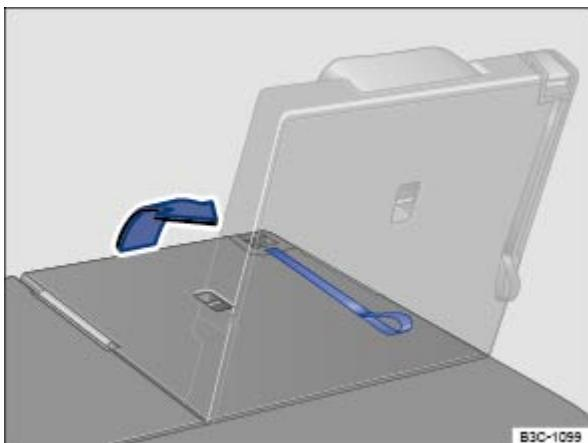

Fig. 79 In the third row: Strap to raise the third row seat backrest.
- Pull the loop on the backrest \Rightarrow Fig. 79 to fold the backrest into place. **OR:** From inside the vehicle, push the lever up and, at the same time, push the backrest into place with your hand.
- If the loop on the backrest \Rightarrow Fig. 79 is attached too tightly to the backrest, the backrest may not securely latch. Detach the loop and try to latch the backrest again.